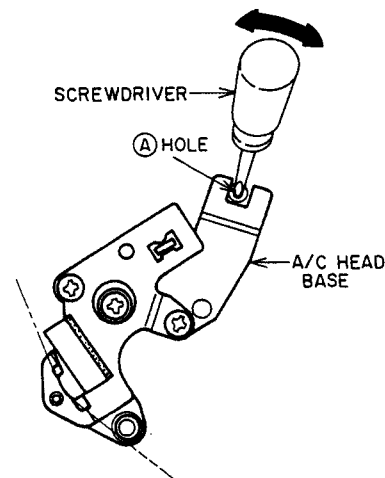

Fig. 4-17
- 5) Insert a sharp, flat head (—) screwdriver into the A/C HEAD BASE and Ⓐ hole as shown in Fig. 4-17.
- 6) Move the A/C HEAD BASE by moving a screwdriver in the direction of the arrow as shown in Fig. 4-17 to obtain the maximum RF output, then tighten the Ⓒ screw.